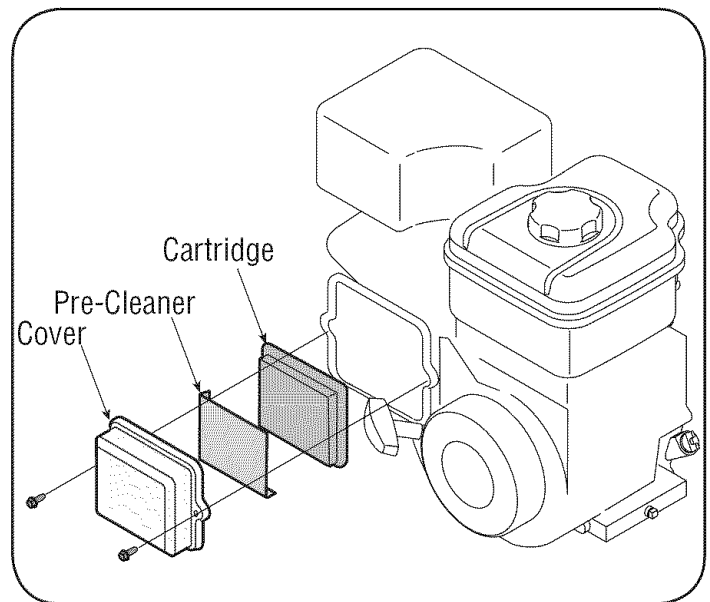

Figure 12
2. Open cover and remove cartridge. See Figure 12.